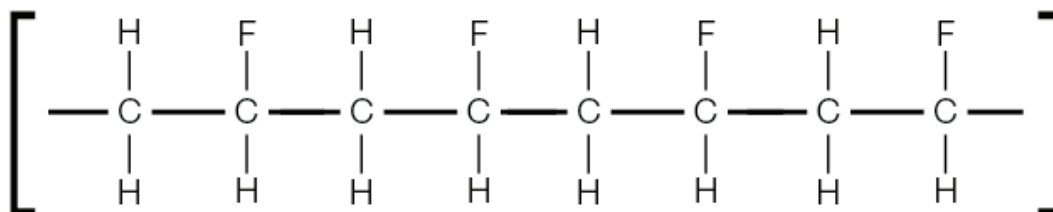

Figure 2. A polymer.
**Figure 2.** This piezoelectric material, developed at NASA's Langley Research Center (LaRC), can "feel" deformations such as bending or surface pressure, producing a small voltage in response that can act as a signal for a central computer.